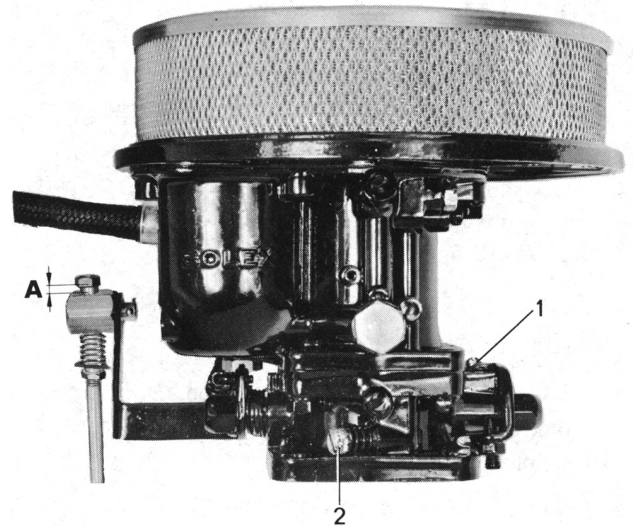

Fig. F9. Single carburetor Solex (AQ115A)
1. Check when the control lever is in neutral position that the spring-loaded cube has a spring tension of about 2 mm (0.08") (see A, Fig. F9). When adjusting, slacken the locknut under the spring sleeve and screw the sleeve on the thread of the control cable until the correct measurement is obtained.
2. Run the engine warm and check that the idling speed agrees with the value given in the "Specifications". If necessary, adjust the throttle stop screw (1, Fig. F9). If the engine runs unevenly, adjust the air screw until smooth running is obtained. The basic setting for the air screw is about 2 turns of the screw out from its screwed in position.